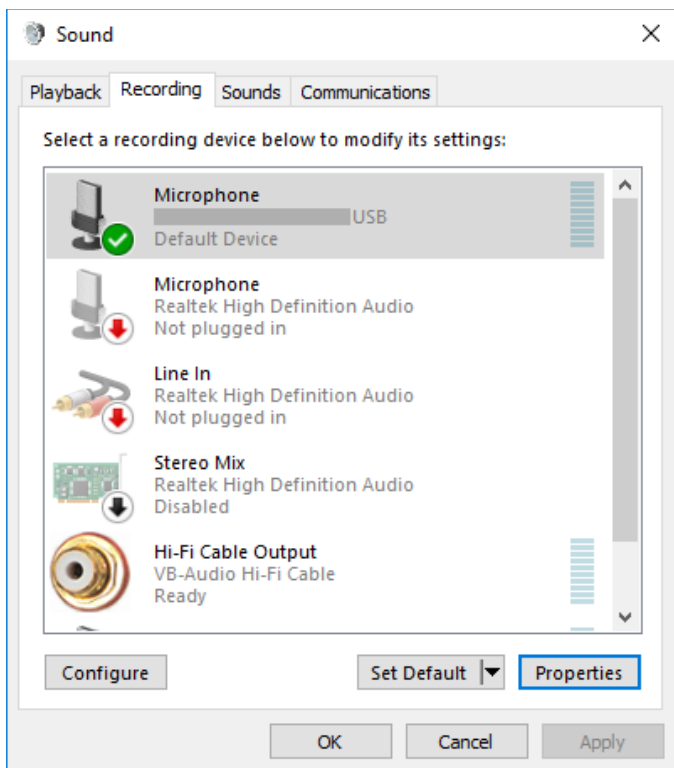
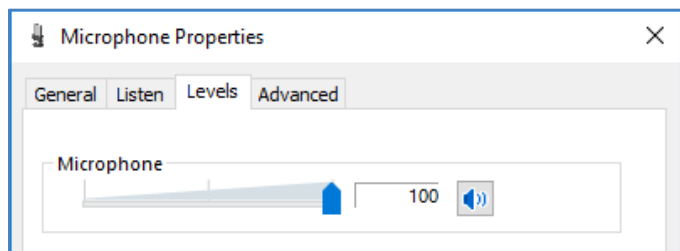

Figure 7. Windows 10 Sound configuration dialog.
Figure 8. The Levels tab of the Microphone Properties dialog.
11. On the PC, open the Windows Sound configuration dialog from Control Panel. Select the Recording tab, then click on the DUT microphone to select it and set it as the default device (Figure 7).
12. Click the Properties button to open the Microphone Properties dialog. Use the Levels tab to set the Microphone Level (Figure 8), then click on the Advanced tab and note the Default Format for recording – e.g., 16-bit, 44.1 kHz, as shown in Figure 7. Be sure to disable any unwanted special effects such as noise reduction, etc., which could impact the microphone’s frequency response. Close the Microphone Properties and Sound dialog windows.